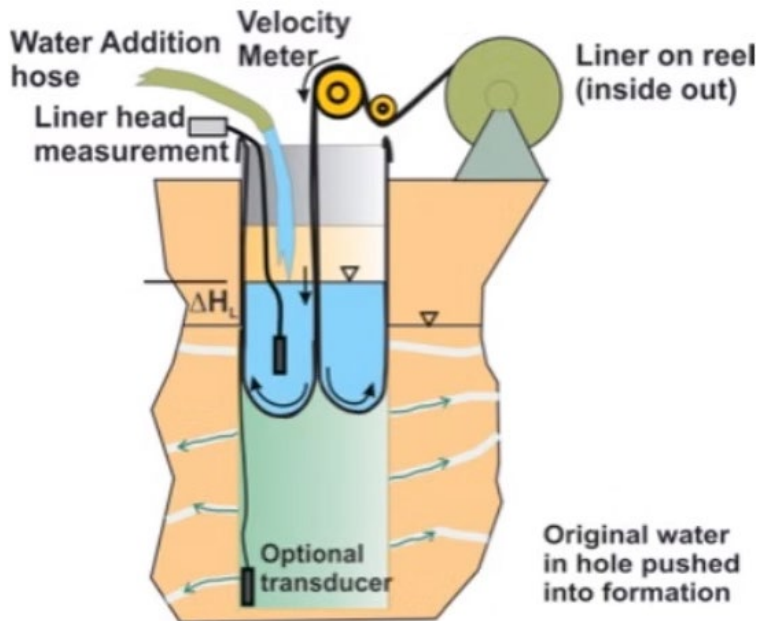

Figure 1. Transmissivity Profiling Setup
As a blank liner is installed and everts down the borehole, the water in the borehole is forced into the formation by whatever flow paths are available (e.g. fractures, permeable beds, solution channels, etc.). Figure 1 is a drawing of a simple everting liner with three additional features, (1) The Flute Profiler at the wellhead which measures the liner velocity and additional parameters which can influence the velocity of the liner descent, (2) the pressure transducer measures the excess head in the liner which is driving the liner down the hole, and (3) a pressure transducer measuring the head beneath the liner. From these features, all factors controlling the eversion rate of the liner are monitored.